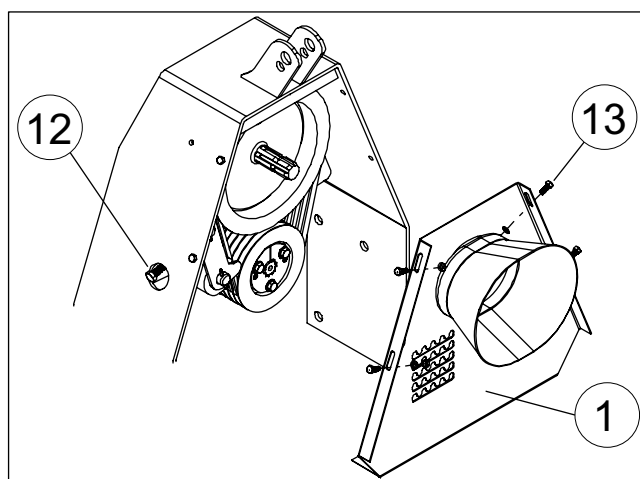

Fig. 13. Installing the 160T belt transmission cover plate
10. Adjust the belt tightener so that the roller touches the belts lightly, then tighten the adjusting bolt (12) by two to three turns. See Figure 13. Be careful not to over-tighten, as this could damage the belts!
11. Attach the plate (1) to the mounting frame with bolts M8 (13).
14. Observe the tightness of the belts and, if necessary, adjust with the adjusting bolt (12).